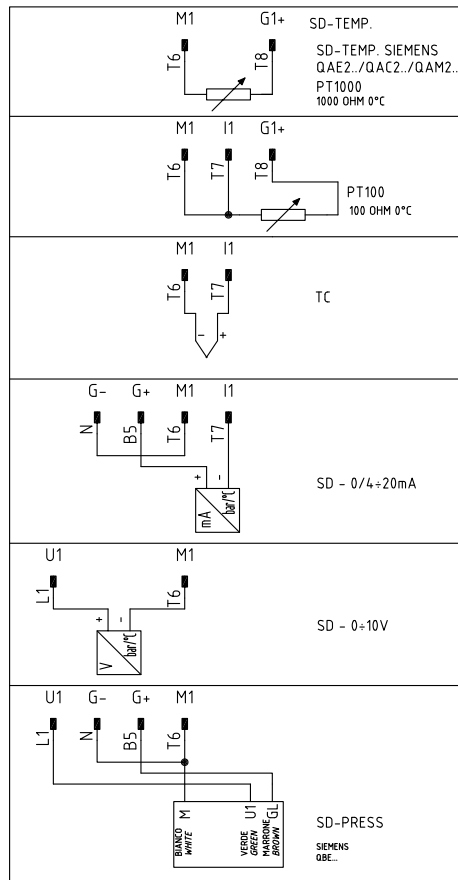

Fig. 25: Probes connection
- 3 In case of modulating burners, the 5, 6 and 7 terminals, on the **MA** terminal block, are already connected to the regulating modulator (mod. **RWF40**). A 4-pole plug coming out from the electrical panel is provided for the temperature and pressure probes connections (see Fig. 25).